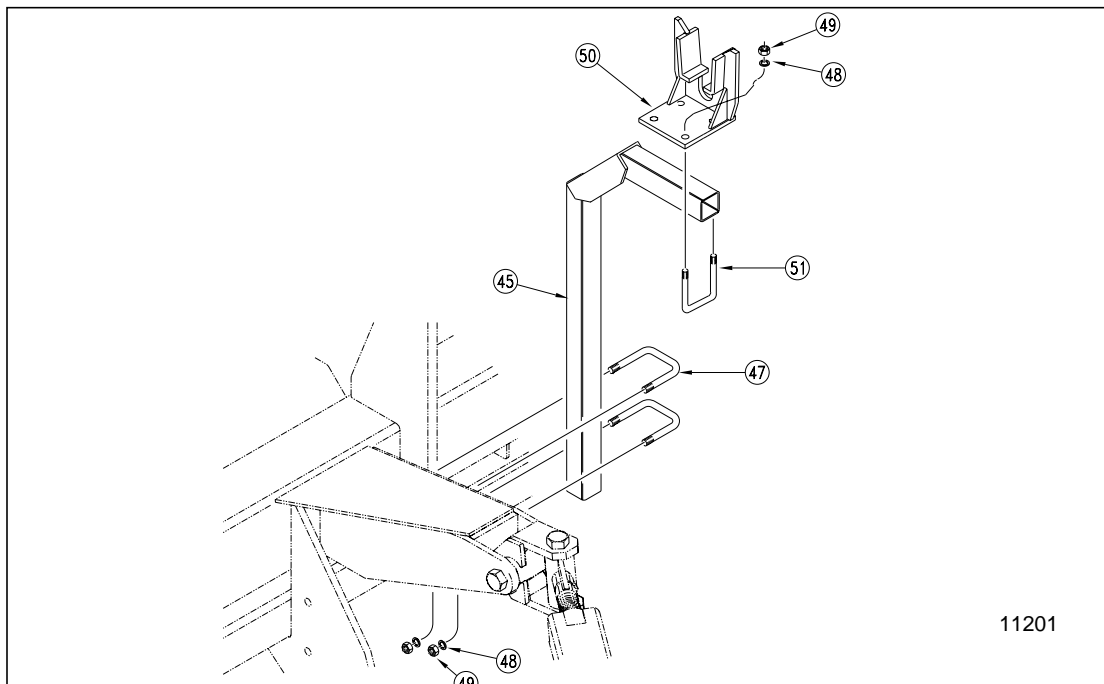

Fig. 6
9. Mount the transport carrier arm on the box by u-bolting it to the pull bar ears as shown in Fig. 6. The carrier arm (# 45) will fit on either side of the pull bar ear (# 46) but on drills that are equipped with the small seeds box, the carrier must be installed towards the center of the drill as shown. Hold the carrier in place by passing the two u-bolts (# 47) over the carrier tube, and through the holes in pull bar ears. Tentatively, tighten the u-bolts with the lock washers (# 48) and nuts (#49) so that the top of the carrier is approximately 31 3/8" above the top surface of the box's 6" x 6" frame tube.
When folding the marker for the first time, it may be necessary to move the marker storage saddle, Fig. 6 (#50) into alignment with the 2nd section of the marker arm. Slowly fold the marker(s) and stop when the marker is just above the storage saddle. Adjust the bracket(s) in or out as needed.
After centering the storage saddle(s) and folding the marker(s), visually check to see if the height of the transport carrier is correct. Fig. 6 (#45). The 2nd section of the marker should appear parallel with the top of the drill box. If not, loosen the transport carrier u-bolts (#47) and adjust the carrier up or down.